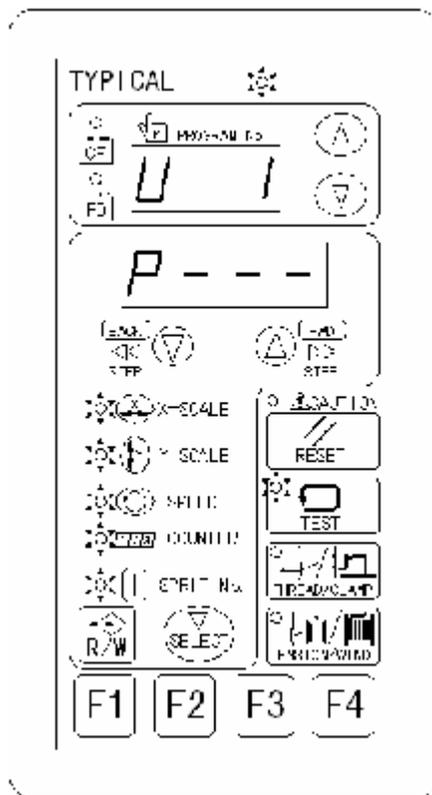
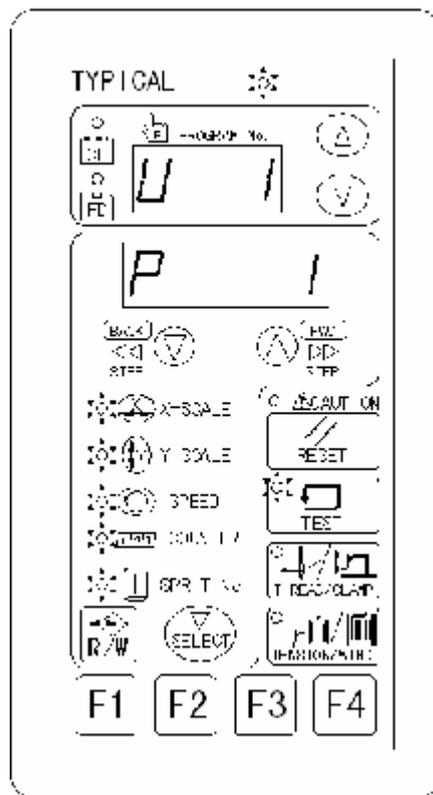

Fig. 5-20
Fig. 5-21
- In the sewing speed set-up interface, press  and  keys (as shown in Fig. 5-20) simultaneously to enter cycle program set-up mode.
- As shown in Fig. 5-20, [U 1] shows cycle program preset program 1, [P---] shows the prefix of directed pattern number. At this time, press  or  key to select pattern 1# from pattern numbers. And the operation panel display is as shown in Fig. 5-21.